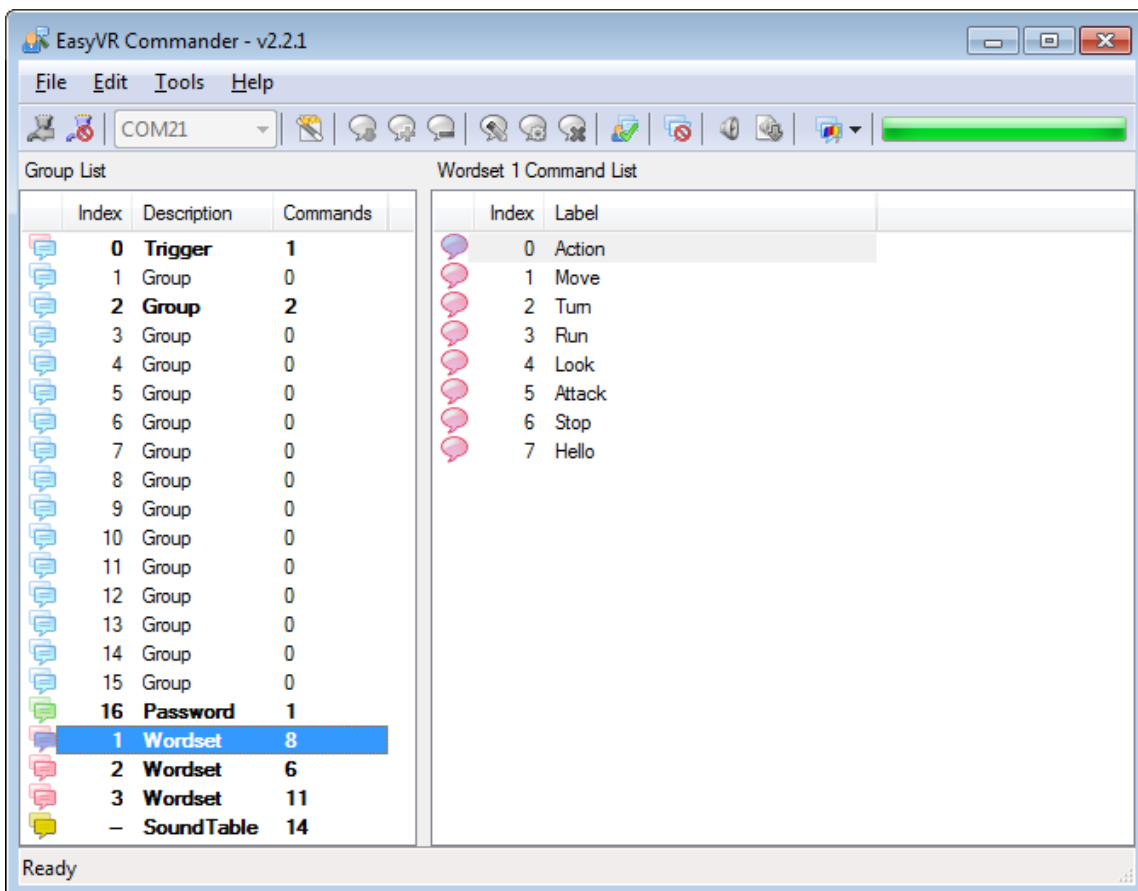
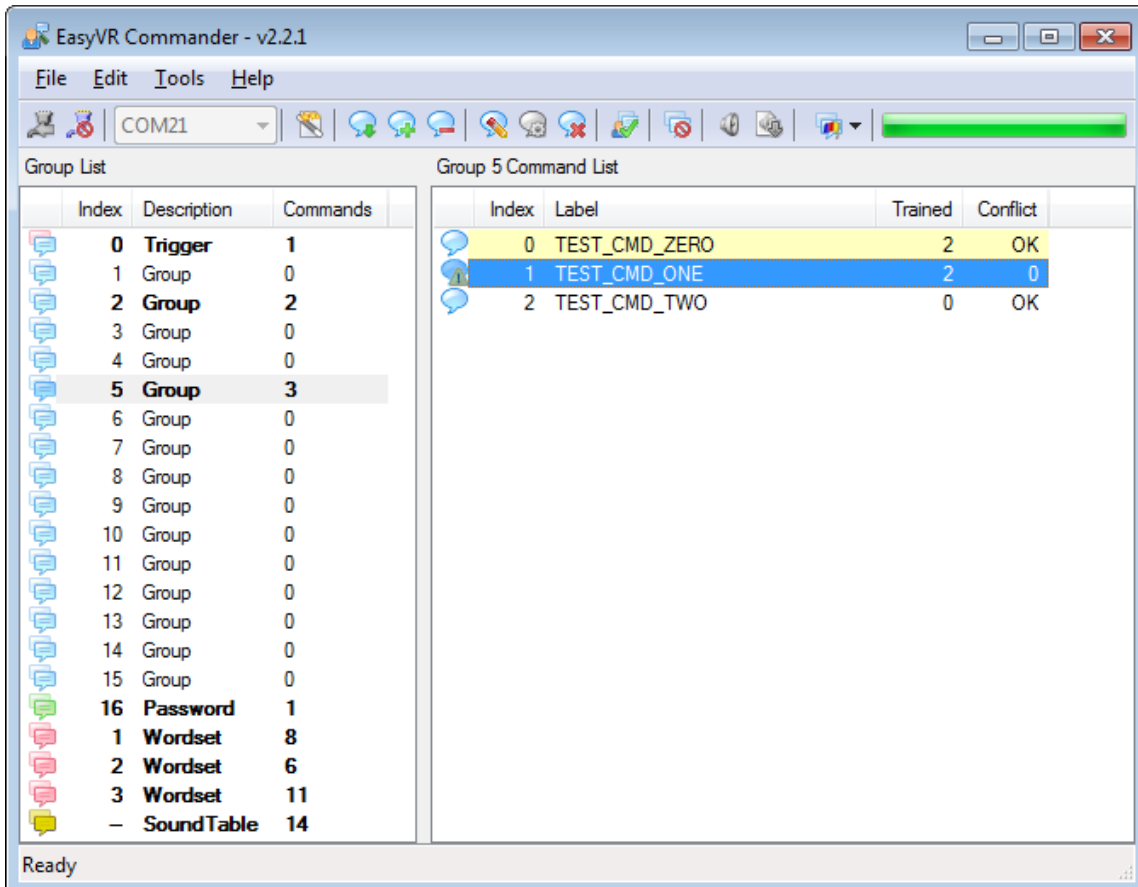

Figure 1 – Main application window
Figure 4 – Conflicting commands
There are four kinds of commands in the software (see Figure 1 and Figure 4):
- **Password** - a special group for "vocal passwords" (up to five), using Speaker Verification (SV) technology
- **Wordset** - built-in set of SI commands (for instance in Figure 1 above, the Wordset 1 is selected)
conflicting command in the "Conflict" column. For example, in the following Figure 4 the command "TEST_CMD_ONE" sounds too similar to "TEST_CMD_ZERO" (i.e. they have been trained with a similar pronunciation).